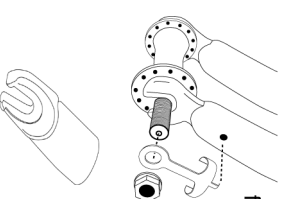

fig. 12a
Secondary retention devices fall into three basic categories (see figs. 12a, b & c):
a. The clip-on type is a part which the manufacturer adds to the front wheel hub or front fork (fig. 12a).